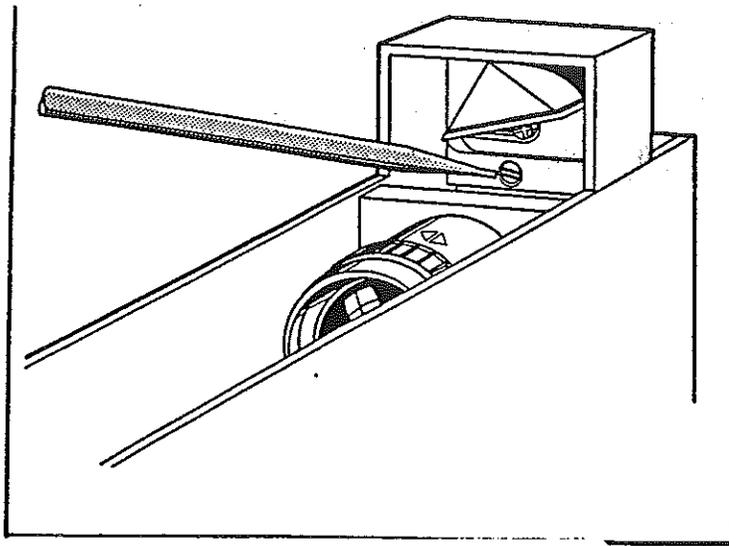

Fig. 19
- (c) Remove the camera front panel by first removing the securing screw at the bottom of the prism housing, (Fig. 19) then lifting the panel up about 6 mm and withdrawing forwards.